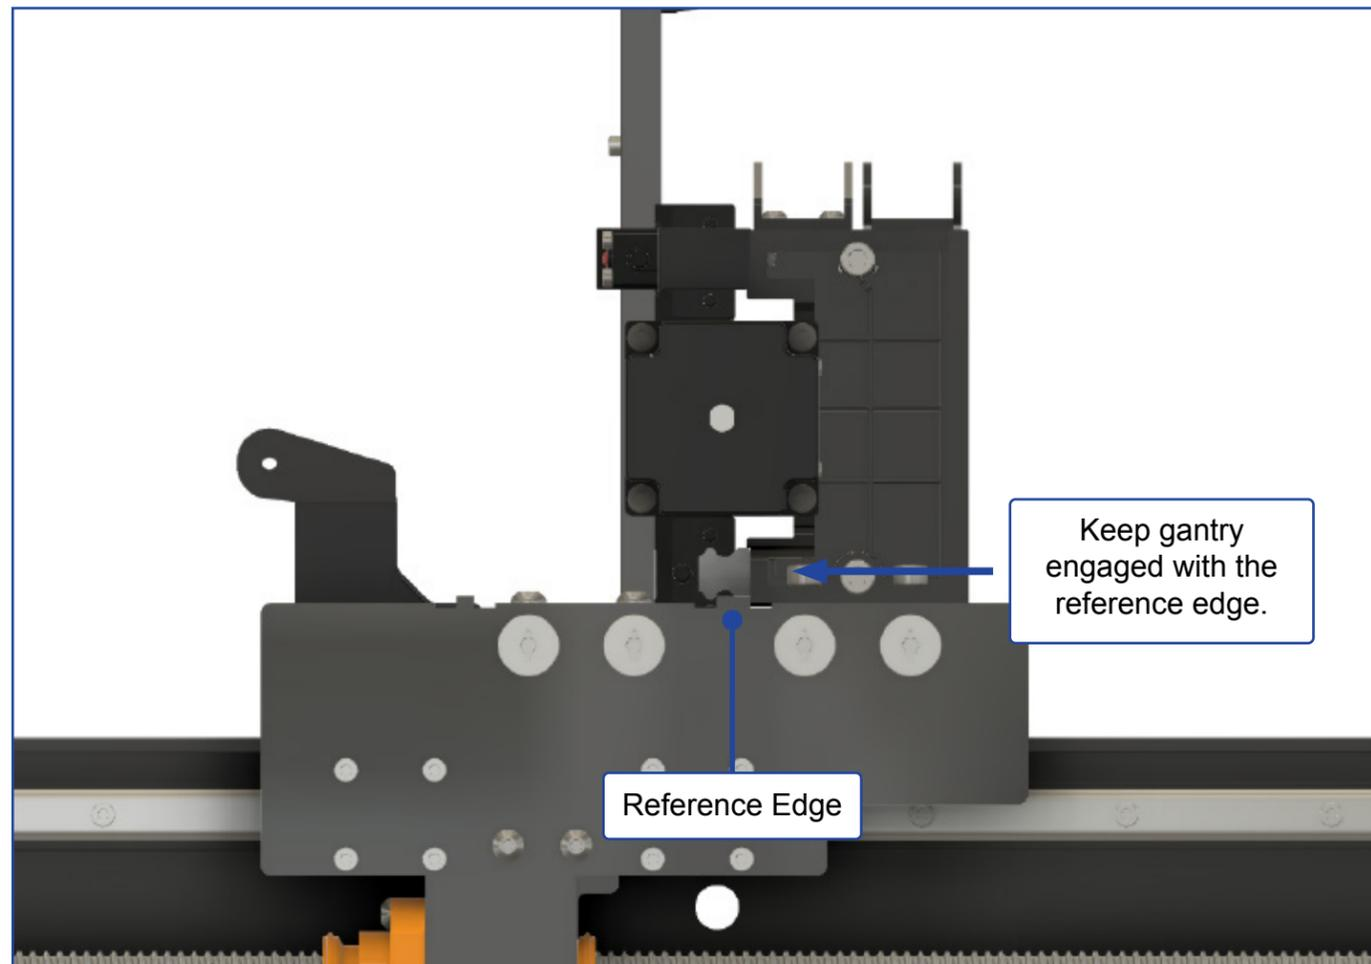

Figure 1-6
- From the right side of the machine, push the gantry toward the front of the machine until it engages with the reference edge on the top of the Y-Right carriage plate. See **Fig. 1-6**.